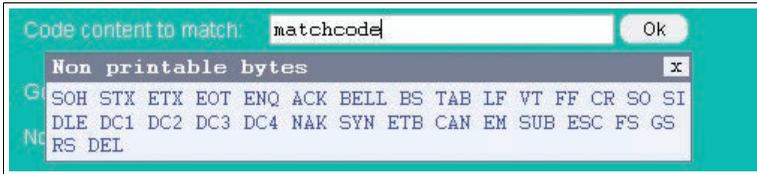

Figure 7.8 Tooltip matchcode
- **Comparison code:** The comparison code is entered here. When the mouse is moved over the comparison code input window, the popup menu containing the nonprinting characters appears → see Figure 7.8 on page 28.